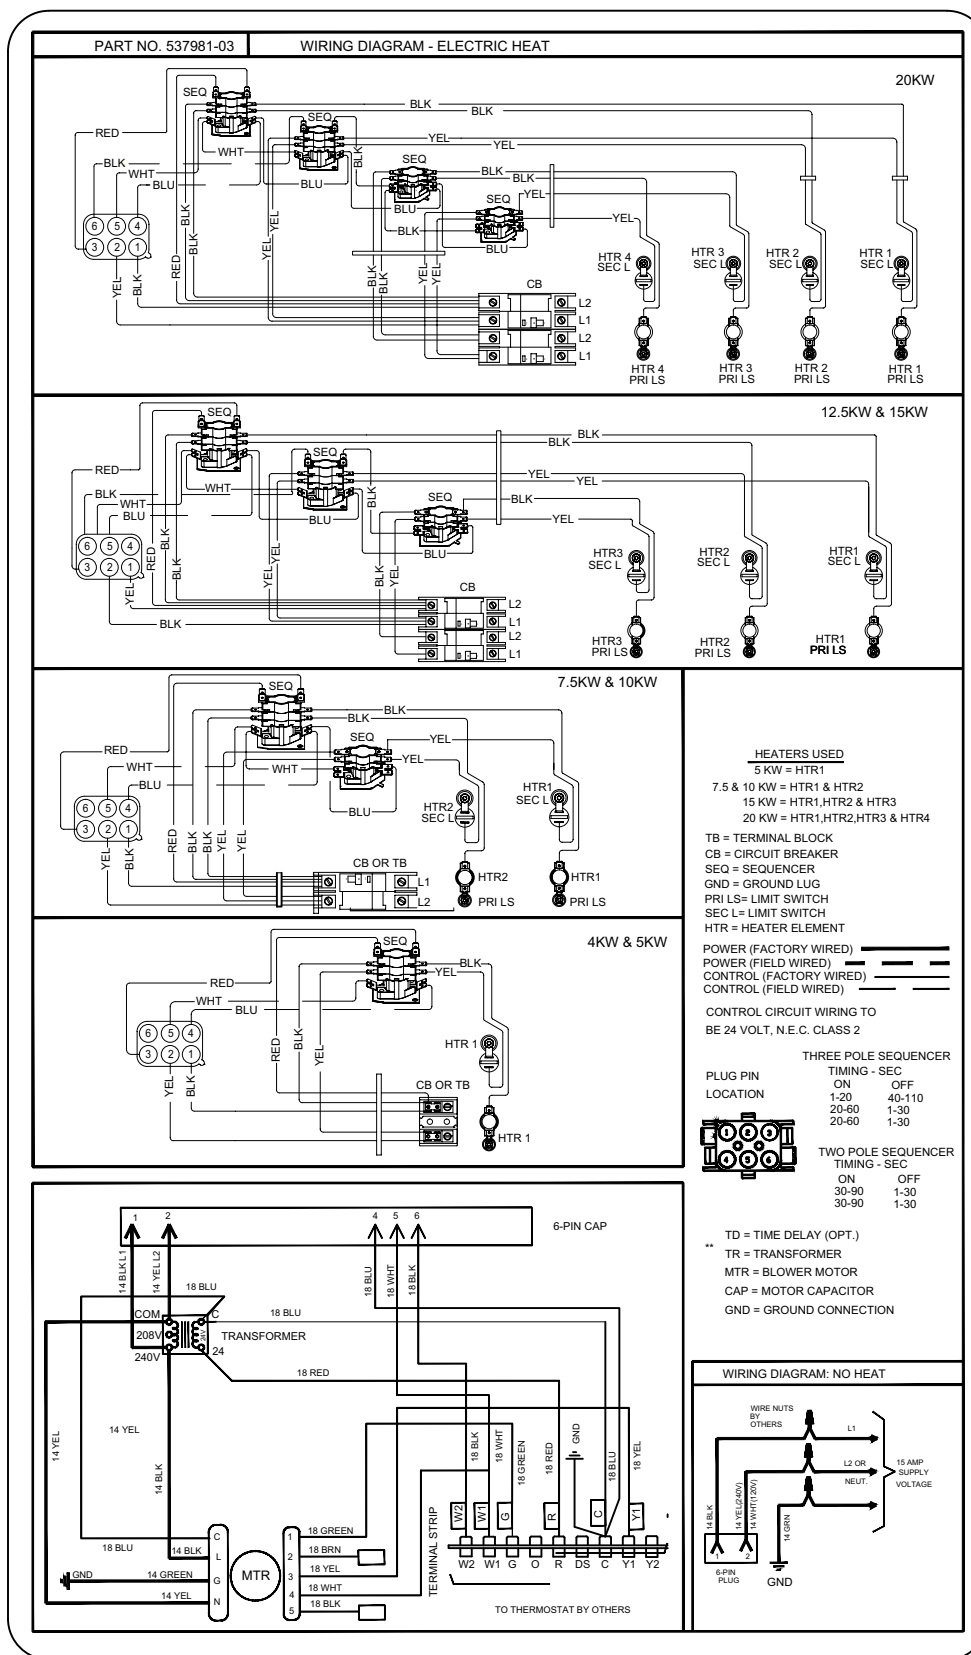

Figure 16. Typical Wiring Diagram – HMGX*P Air Handler with Electric Heat – (Constant Torque Motor)
- Typical unit wiring (as well as wiring of optional field-installed electric heat) is given in Figure 16. Refer to the instructions provided with the electric heat section for proper installation.